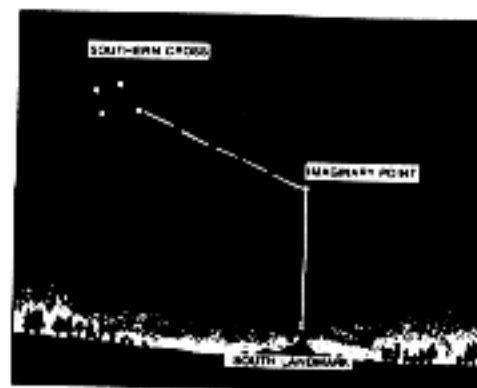

Figure 11-4. Southern Cross
1. South of the equator you can use the constellation Southern Cross to help you determine the general direction of south (figure 11-4). The Southern Cross is a group of four bright stars in the shape of a cross that is tilted to one side. The two stars forming the long axis, or stem, of the cross are called pointers. To determine which direction is south - - -